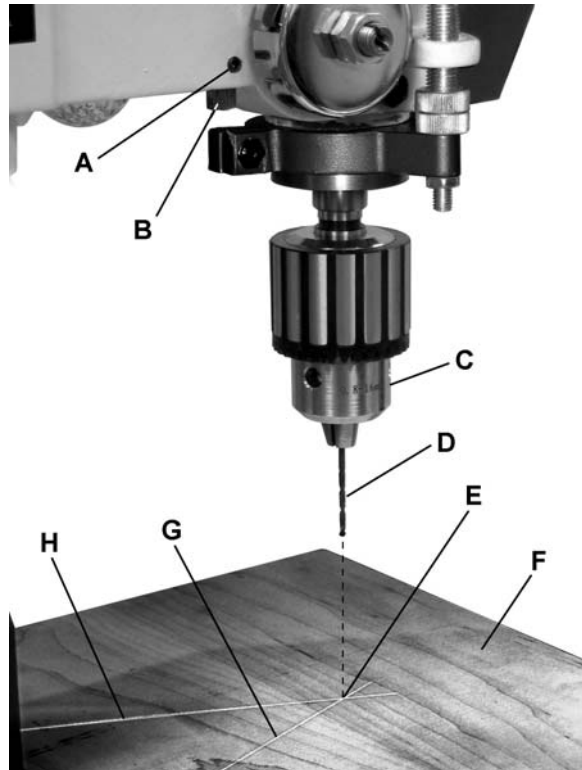

Figure 11
To align (refer to Figure 11):
1. Place a small *drill bit* (D) in the *chuck* (C), then place *board* (F) flat on the table. Do not allow the board to move from this position; use clamps if needed. **Important:** The drill press table should be in horizontal position and locked.
2. Bring the bit down until it leaves a *slight perforation* in the board (E) then raise it back up.
4. Using a 3mm hex wrench, loosen *setscrews* (A) on both laser assemblies (only left side laser assembly is shown in Figure 11).
5. Adjust (B) so the *laser line* (G) crosses the perforation (E). Tighten *setscrew* (A).
6. Adjust the other laser assembly in the same manner until both laser lines form *cross-hairs* (G,H) exactly over the *perforation* (E) in the board.
7. Tighten both setscrews (A).